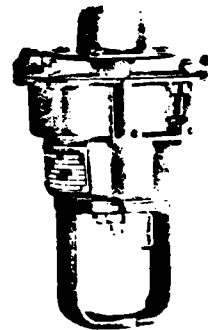
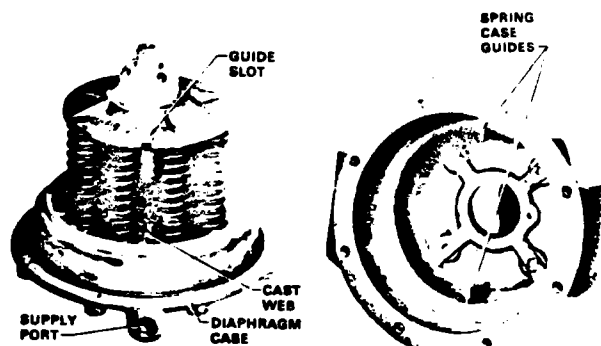
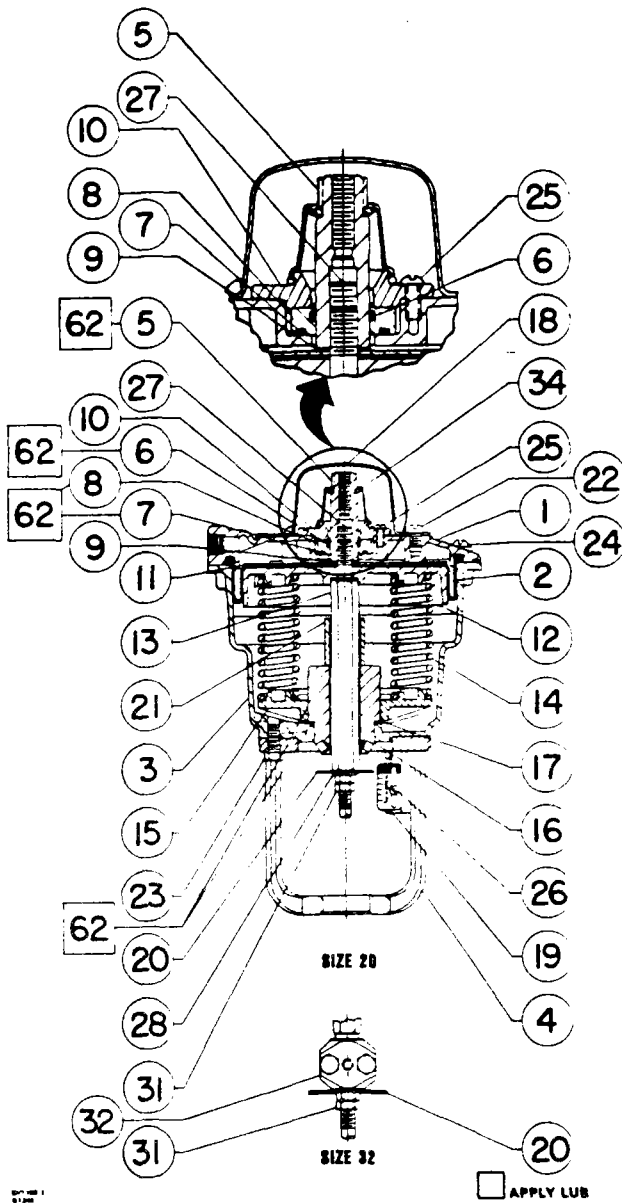
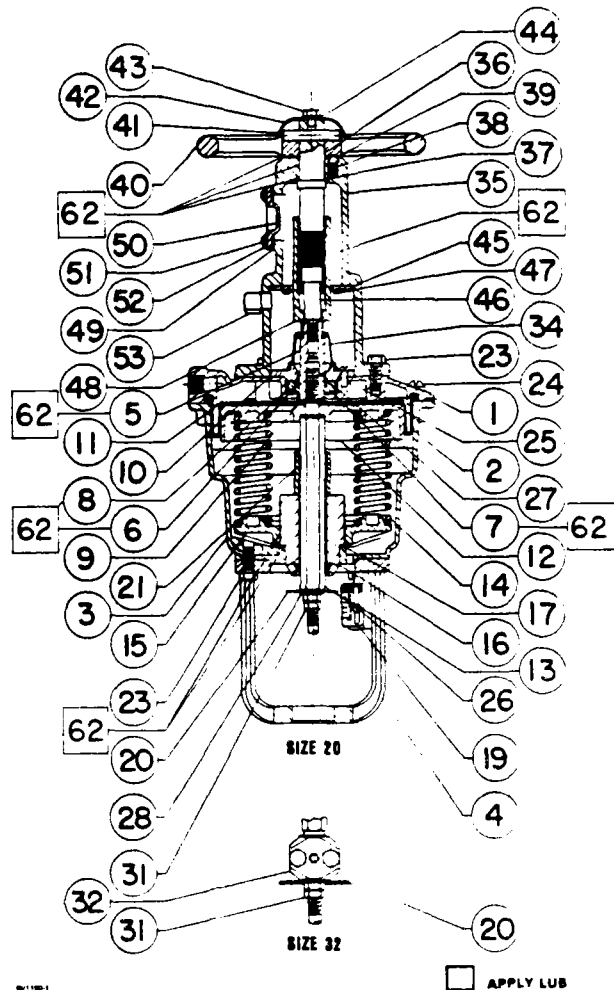

Figure 1. Type 513 Diaphragm Actuator Mounted on a Design GS Valve Body
Figure 2. Diaphragm Case Assembly and Spring Case
Figure 3. Type 513 Actuator
Figure 4. Type 513 Actuator with Handwheel
The handwheel indicator (key 50, figure 4) near the top of the handwheel body permits viewing the position of the handwheel nut (key 48, figure 4). To prevent limiting of actuator travel by the handwheel assembly, line up the top shoulder of the handwheel nut with the line marked "NEUTRAL" on the indicator.
Actuator parts are subject to normal wear. They should be inspected and replaced as necessary. The frequency of inspection is dependent on the severity of service conditions. Instructions are given below for complete disassembly and assembly of the actuator. When replacing the diaphragm or changing the springs, travel stop, or other parts, perform only those steps necessary to accomplish the job. Some of the steps of this procedure have been divided due to construction differences between actuators. Steps which are not divided pertain to all constructions, and the key numbers refer to figures 3, 4, and 5. For divided steps, refer to figure 3 for standard Type 513 actuators, figure 4 for actuators with handwheels, and figure 5 for Type 513R actuators and actuators with an adjustable travel stop.
1. Insert O-rings (keys 6 and 7) into bushing (key 8) grooves and clamp bushing into diaphragm case (key 1) using the bushing retainer (key 10) and machine screws (key 25).
2. Slide the diaphragm plate (key 12), diaphragm (key 2), plate (key 11), and gasket (key 9) onto the stem and fasten in place with the stem nut (key 5).
3. Slide the diaphragm assembly described in step 2 into the diaphragm case (key 1) as shown in figures 3, 4, and 5. When replacing diaphragm assembly in the diaphragm case, be sure that one of the cast webs in the diaphragm plate is directly in line with the supply port as shown in figure 2.
4. Slide the travel stop (key 21) over the actuator rod (key 13) and set springs (key 14) on the cast guides in the diaphragm plate. Place spring adjuster and spring seat (keys 16 and 15) over the actuator stem, being sure all springs are properly centered around the cast guides in the spring seat and that one of the guide slots in the outer edge of the spring seat is aligned with the supply port as shown in figure 2.
5. Replace thrust washer (key 17). See figure 1 for proper alignment of the spring case (key 3) and yoke in relation to the diaphragm case (key 1). Align spring case guides with spring seat guide slots (shown in figure 2) and lower the spring case over the diaphragm case and spring assembly.
6. Invert the entire unit. Replace screws (key 24), and dust seal (key 34).
7. **Type 513 and 513R actuators with handwheel:** Attach the handwheel nut (key 48) to the stem nut (key 5) with the travel bolt (key 46). Slide the handwheel body (key 35) over the handwheel nut and rotate the handwheel clockwise until the threads engage the handwheel nut. Secure the handwheel body to the actuator with cap screws (key 23).
All standard Type 513 and 513R actuators are field reversible without additional parts. Also, the handwheel version in size 20 [5/16 inch (8.0 mm) and 3/8 inch (9.5 mm) stem sizes only], and the size 32 [3/8 inch (9.5 mm) stem only] with the adjustable travel stop, need no additional parts for field reversal. Other combinations will require change of the stem nut and actuator rod (keys 5 and 13, figure 4). Direct-acting (Type 513) actuators extend the actuator
All key numbers refer to figures 3, 4, and 5 unless otherwise indicated.
1. Remove the actuator from the valve body by loosening stem locknuts (key 31) and, on the size 32 only, the cap screws in the stem connector (key 32). Unscrew the valve stem from the actuator rod (key 13) and remove the yoke locknut.
2. Take the yoke (key 4) off the spring case (key 3) by removing four cap screws (key 23).
3. Take off actuator cap (key 18, figure 3) by removing four machine screws (key 22, figure 4). The actuator cap is not used with the handwheel.
4. Fasten the actuator cap, if used, to the opposite end of the diaphragm case with four machine screws (key 22, figure 3).
5. Turn the diaphragm case over and fasten it to the yoke, using the same four cap screws (key 23).
7. To remount the handwheel, replace the handwheel nut (key 48) and the travel bolt (key 46) on the actuator rod (key 13).
8. Place the handwheel (key 40) and the handwheel body (key 35) over the handwheel nut (key 48) and turn the handwheel clockwise. This engages the threads. Continue rotating until the handwheel assembly seats on the flange of the spring case (key 3). To prevent limiting of actuator
travel by the handwheel assembly, line up the top shoulder of the handwheel nut with the line marked "NEUTRAL" on the indicator (key 50, figure 4).